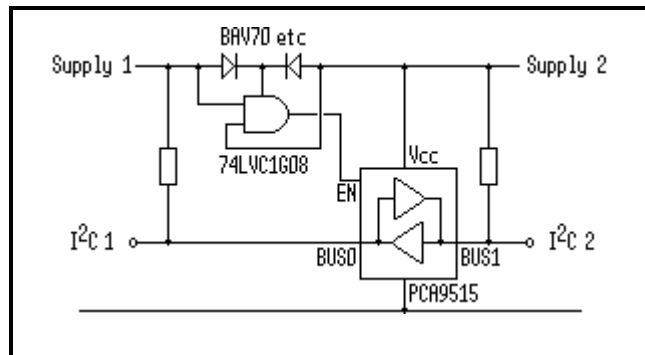

Figure 2. Multiple Voltage Sensing Example
6. Sensing multiple power supplies on different bus segments and providing automatic isolation of failed segments or segments suffering ‘brown-out’ of their power supplies. An example of such sensing using the PCA9515 is shown in Figure 2. In this example a failure of EITHER Supply 1 OR Supply 2 will cause I²C 1/Bus0 to be disconnected from I²C 2/Bus1. The PCA9512 with its two V_{CC} supplies and ACC pin can also be used in this application by tying ACC to V_{CC}.